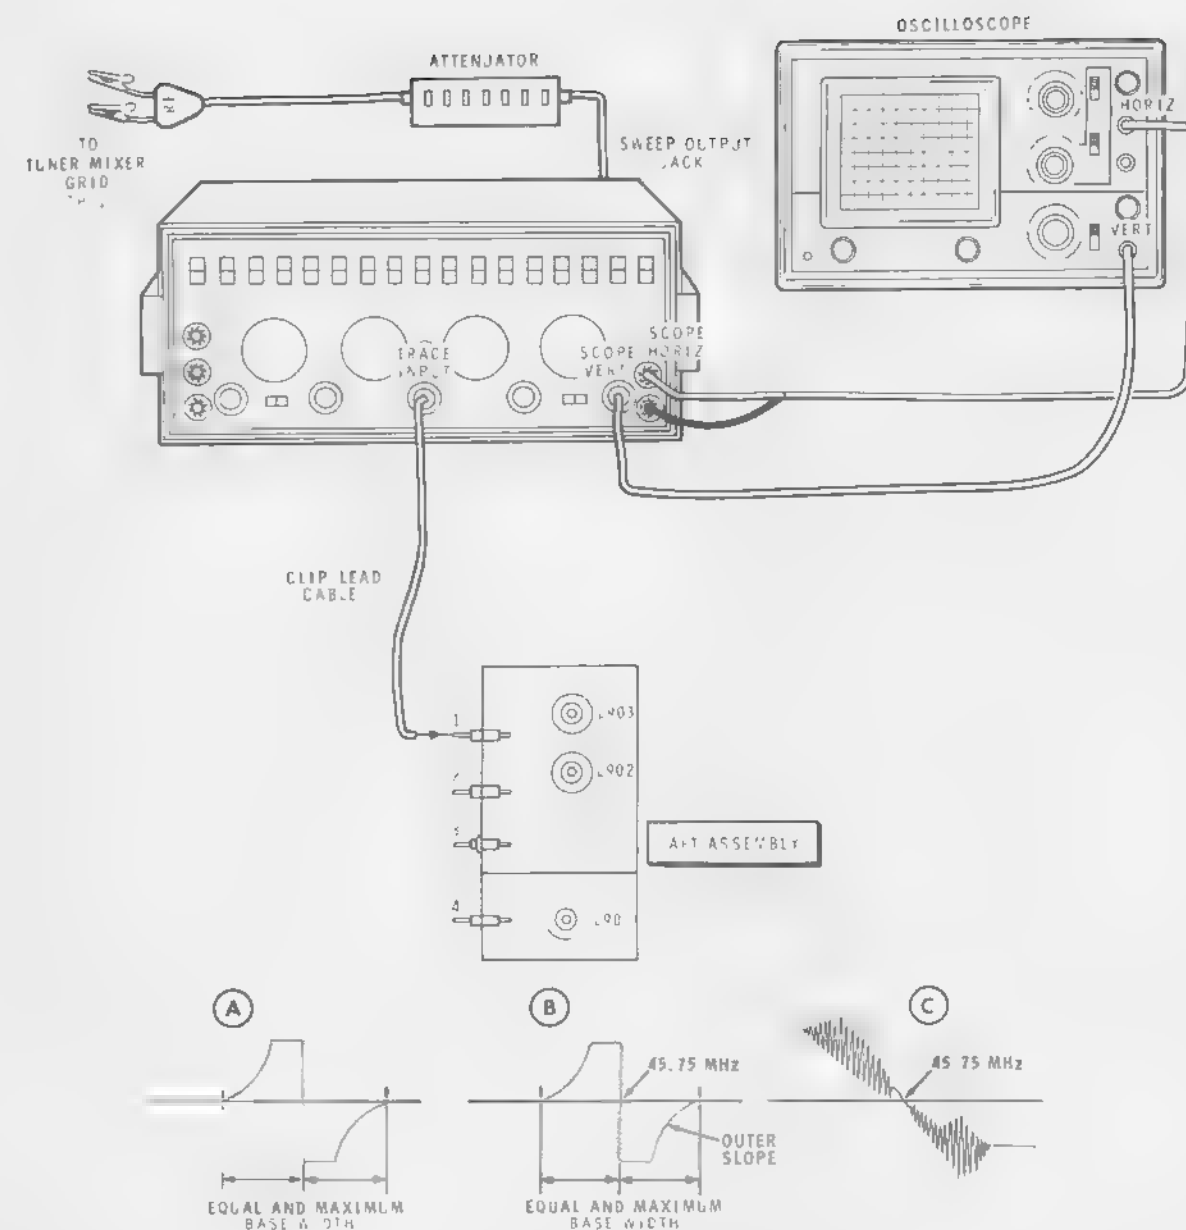

FIGURE 23
7. Connect the oscilloscope and generator together as shown in Figure 23 (fold-out from Page 81).
Refer to Figure 23 for the following steps.
- () Adjust the output of the sweep generator until the top and bottom peaks of the waveform are just clipped as shown in Part A of Figure 23. NOTE: If the AFT was completely misaligned, a waveform may not be obtained. In this case, adjust the sweep generator for maximum output disregarding the absence of a waveform.